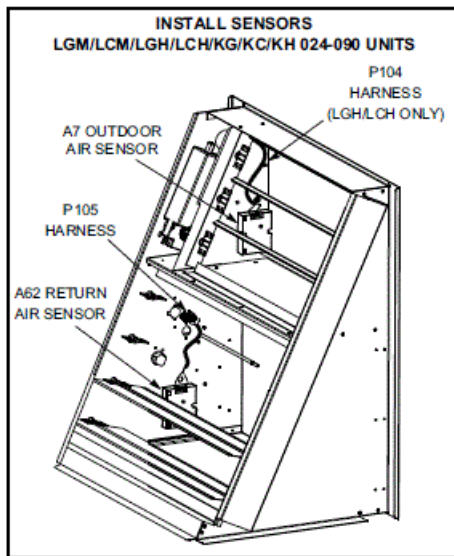
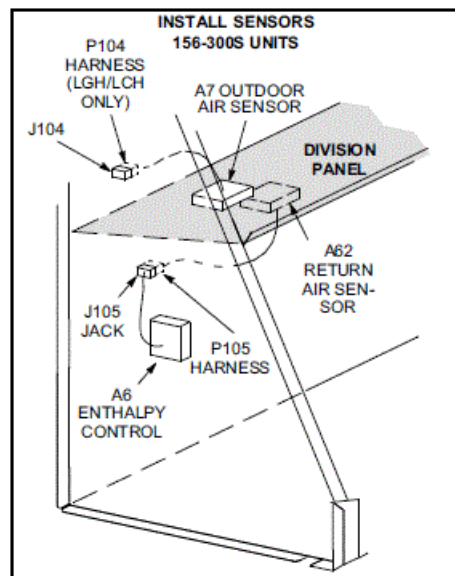
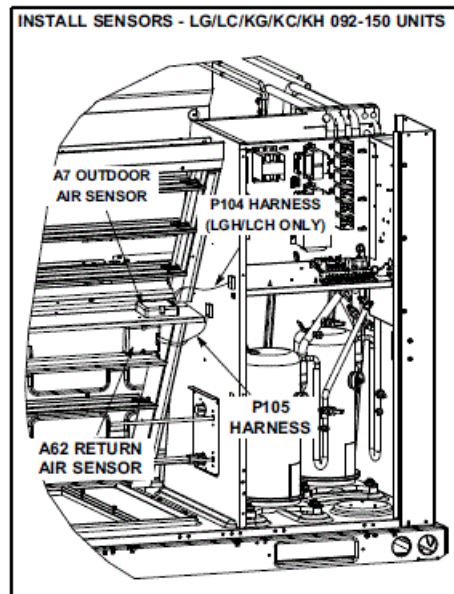

FIGURE 1
FIGURE 3
FIGURE 2
1. Connect P104 harness plug to unit J104. See figure 1 for 024-090 units, figure 2 for 092-150 units, and figure 3 for 156-300S units.
1. Connect P105 harness plug to unit J105. See figure 1 for 036-072 units, figure 2 for 092-150 units, and figure 3 for 156-300S units. On KG/KC/KH units refer to Wire A6 section in this instruction to install J105.
1. Install J105 harness jack in panel as shown in figure 8 for 024-090 units, figure 9 for KG/KC/KH 092-150 units and figure 3 for 180-300S units.